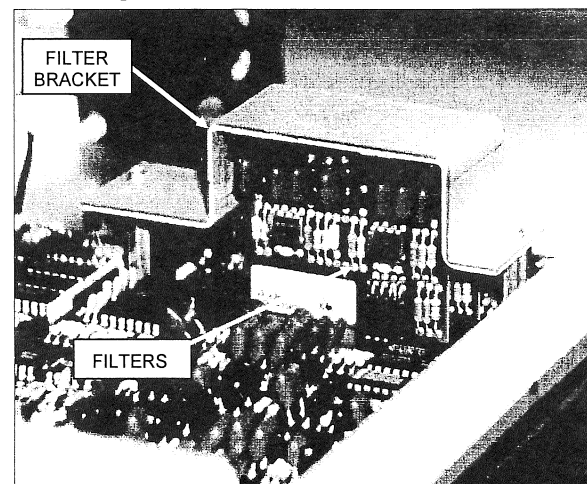
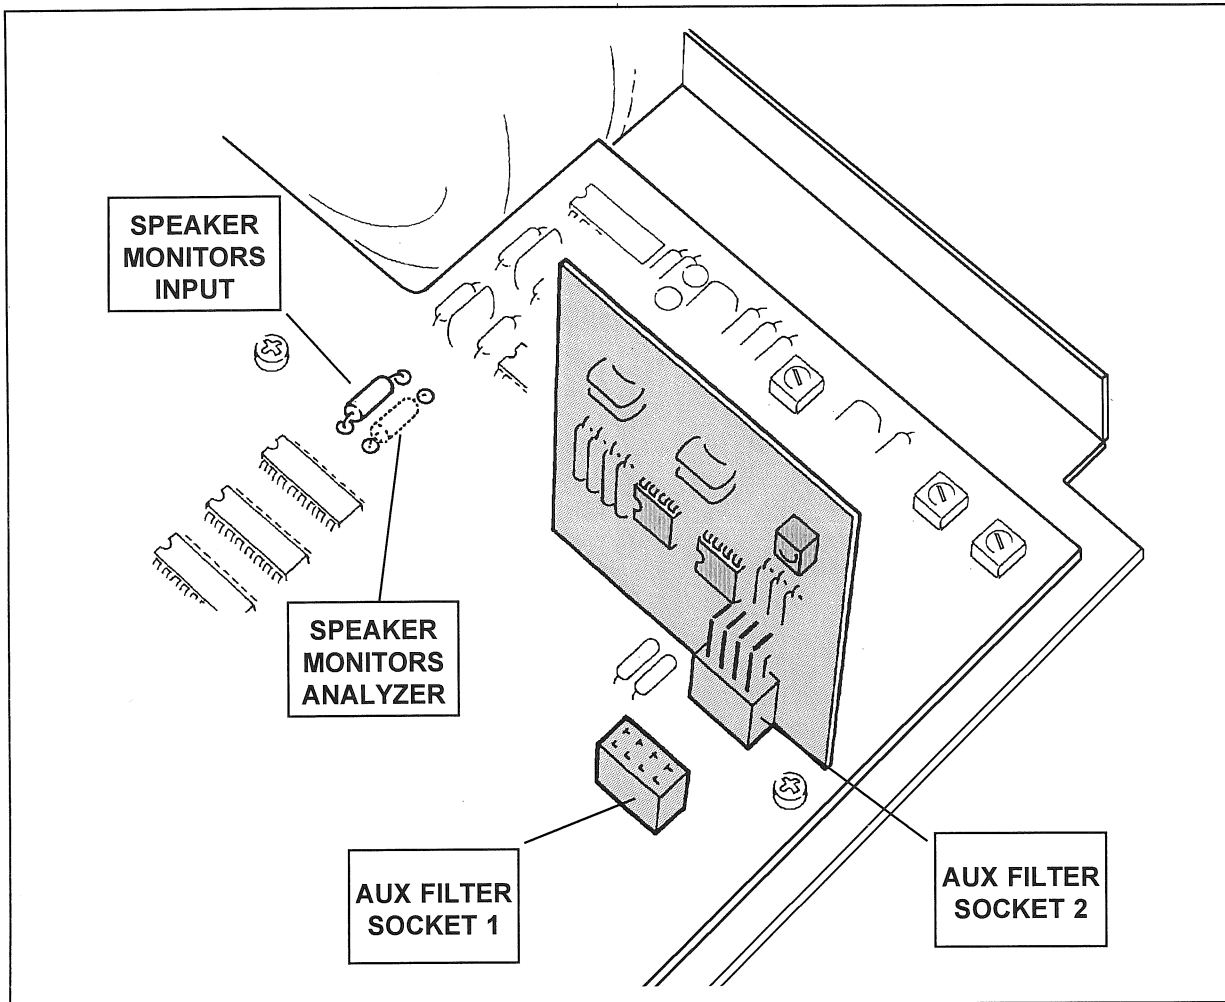

Figure 3-11 Filters and Filter Hold-Down Bracket
Figure 3-12 Auxiliary Filter Socket Locations and Monitor Loudspeaker Jumper Locations
2. The two sockets for option filters are located near the right rear of the main analyzer circuit board (see Figure 3-12). They are clearly labeled FILTER1 and FILTER2 on the circuit board. Remove the two screws which secure the filter hold-down bracket, and remove the hold-down bracket. See Figure 3-11.
2. Unsolder and remove the internal jumper shown in Figure 3-12 from its factory-installed position and re-install it in the alternate location as shown in the drawing.